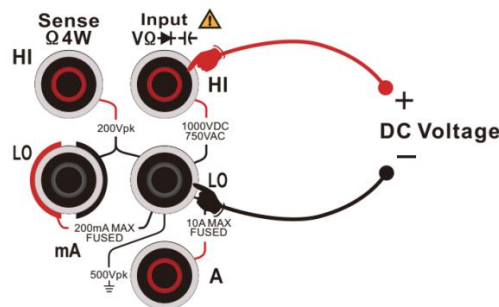

Figure 2-5 Connection of DC voltage measurement
2) Connect test leads to the measured voltage as Figure 2-5, red test lead should be connected to terminal HI, and the black one to terminal LO.